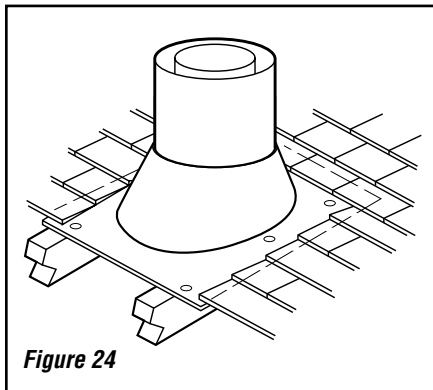

Figure 24
**Step 7.** Secure flashing by nailing along the perimeter into roof using 8d nails or equivalent fasteners. If shingled roof, slide upper end and sides of roof flashing under shingles (trim if necessary), seal the top and both sides of the flashing to the roof with roof caulking. Cover fastener heads with roof caulking (**Figure 24**).